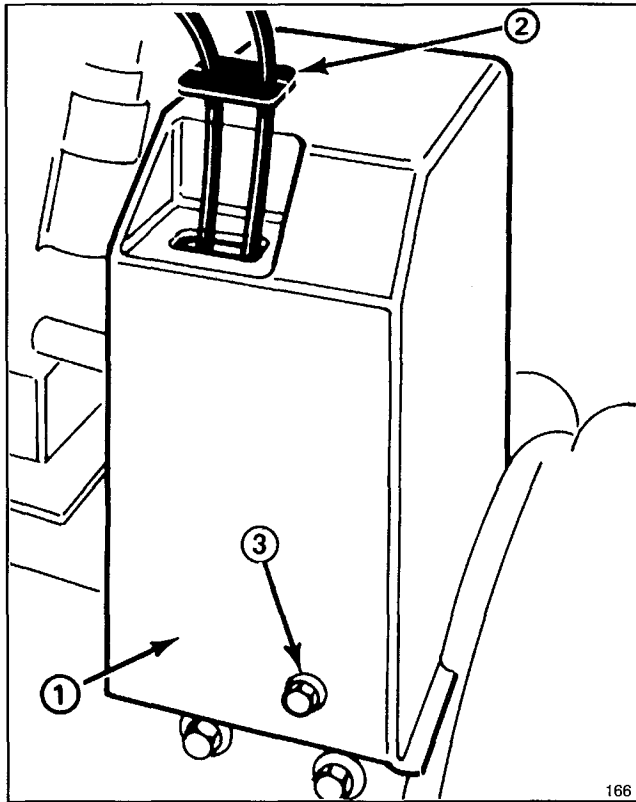

Figure 3
9. Mount upper belt cover to engine frame with (3) 1/4–20 x 1/2" lg. flange head capscrews (Fig. 3).